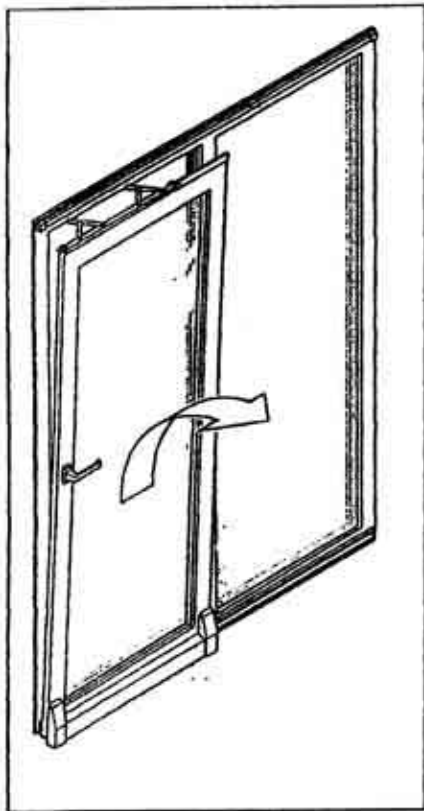

Figure 5-9. How to remove the sash from the frame
- 3.5 Tilt the top of the sash towards you: tilt it far enough to release the wheels out of the bottom track, but not too far that you can cause damage to the glide-runner hardware cover. See fig. 5-9 and 5-10.